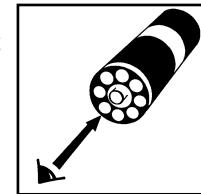

Figure 2
4. Place the ampoule, flat end downward into the center tube of the comparator. Direct the top of the comparator up toward a source of light while viewing from the bottom. Rotate the comparator until the color standard below the ampoule shows the closest match (fig 2). If the color of the ampoule is between two color standards, a concentration estimate can be made.